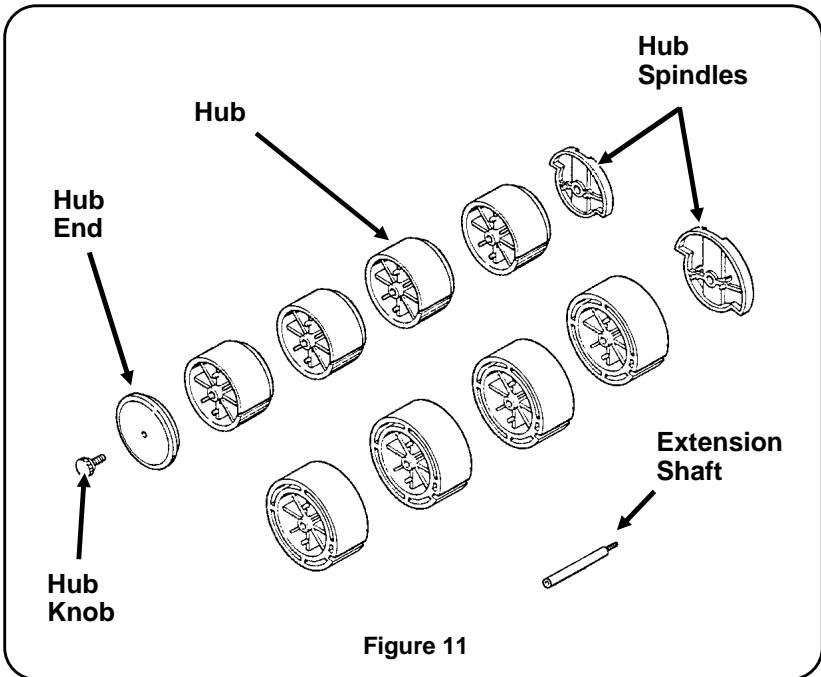

Figure 11
3. Remove the hub sections and replace them with the new ones (Figure 11).